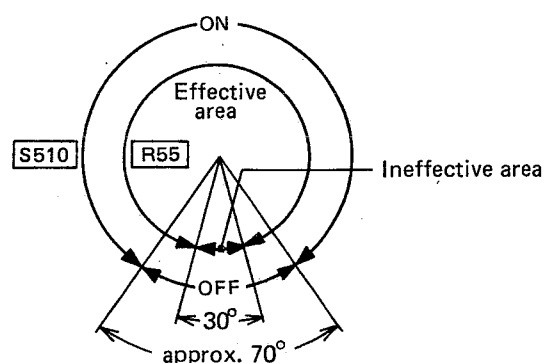

Fig. 6-10 Relationship of R55 to S510
4. Check that the relationship between the effective and ineffective sections of R55 and ON-OFF of S510 are as in Fig. 6-10. If not re-do steps 2 and 3.